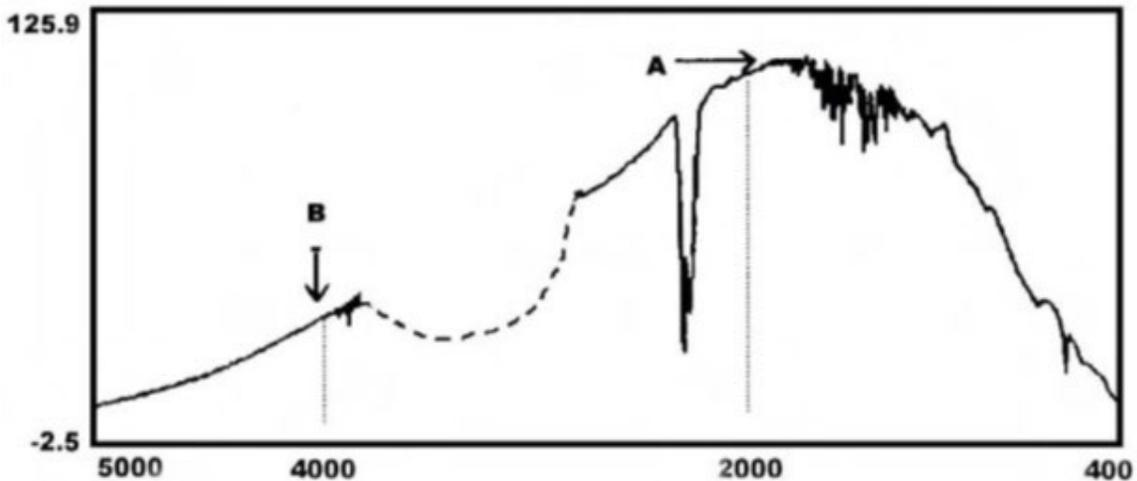

Figure 82. Problem Background Spectrum
- 4) The spectrum in Figure 82 has a dip in the region around 3000 to 3500cm⁻¹. This indicates that there is a chemical coating on the gas cell. It needs to be cleaned or replaced.
Turn off the main power switch. You need the service kit for the Gas vacuum pump. If the kit includes instructions with diagrams, do not use them. Instead, refer to Figure 82 and Table 7 and use the following procedure: